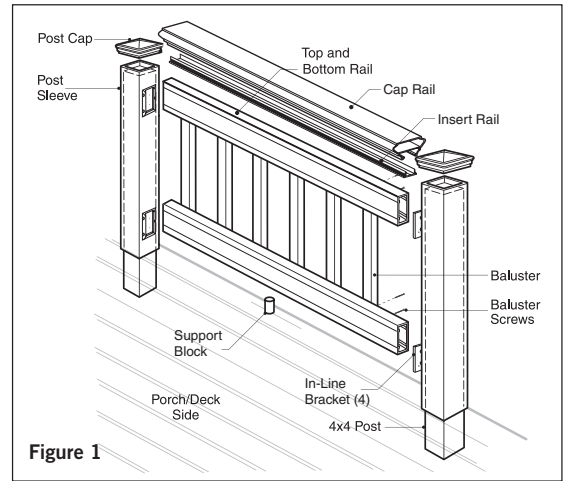

Figure 1
Step 6 Measure the distance between installed post sleeves to determine the length of the top and bottom rails (**Figure 1**). The distance between the post and first baluster should be less than 4" and equal on both ends (**Figure 4a and 4b**). Remove an additional 1/4" on both ends (1/2" overall) for the bracket to fit between the rail and post. Trim the top and bottom rails to length.